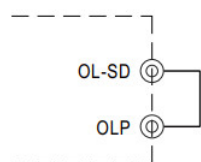

Fig. 5.1 Insert the CN3
1. Insert the shorting connector on CN3 that is shown in Fig 5.1, the Overload Protection Type will be “constant current limiting with delay shutdown after 5 seconds, re-power on to recover”. This is the factory default.